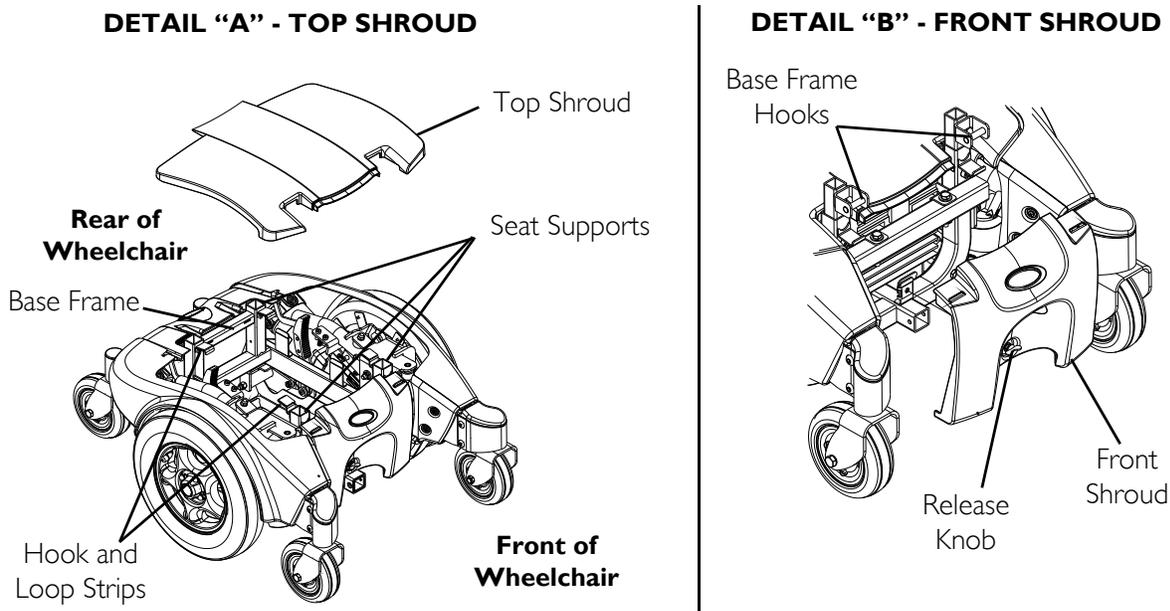

FIGURE 11.1 Removing/Installing the Shrouds
NOTE: For this procedure, refer to FIGURE 11.1 on page 72.
- Top Shroud - Lift up on rear edge of top shroud to release the four hook and loop strips that secure the top shroud to the base frame as shown in Detail "A" of FIGURE 11.1.
- Front Shroud - Turn release knob ¼-turn to the unlocked position and lift up to remove front shroud from base frame hooks as shown in Detail "B" in FIGURE 11.1.
- Top Shroud - Position top shroud on to the base frame and gently press down on top shroud to secure the four hook and loop strips that secure the top shroud to the base frame as shown in Detail "A" of FIGURE 11.1.
- Front Shroud - Position front shroud onto the two base frame hooks. Turn release knob ¼-turn to the locked position as shown in Detail "B" of FIGURE 11.1.